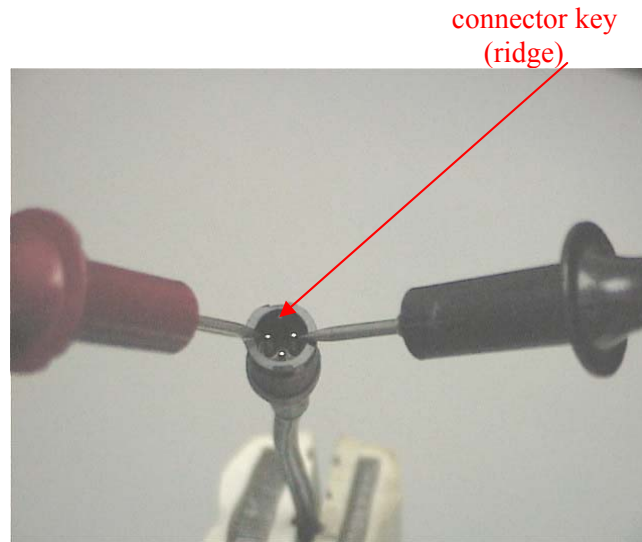

Figure 1
**Step 2.** Verify capacitance measures according to the following picture (**Figure 1, page 12-3**) and chart (**Chart A, page 12-3**).
- A. Measure the capacitance of the transducer at the extension cable plug end that exits the motor coil cord (PD/AP and Genesis models) or footpedal (Maxxum foot-control models) using your capacitance meter as per **Figure 1**. Touch the red and black probes from your capacitance meter to the correct pins on the plug (transducer + and -). For proper orientation, be sure the connector key (ridge) is at the top of the plug as in **Figure 1, page 12-3** (just above and between the red and black probes).